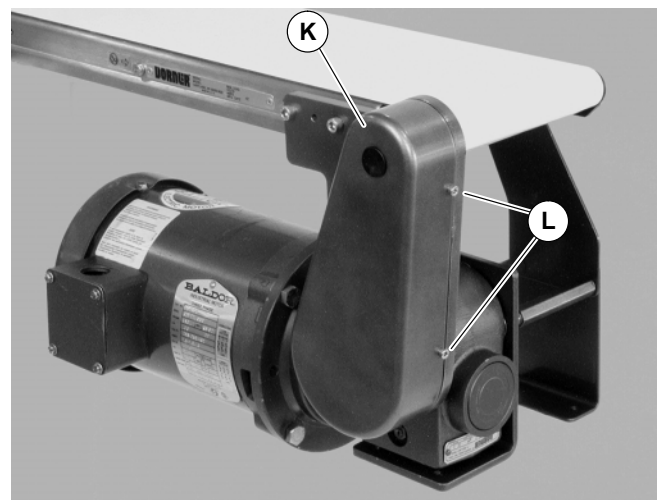

Figure 14
12. Install cover (K of Figure 14) with four (4) screws (L). Tighten to 35 in-lb (4 Nm).
1. Remove four (4) screws (L of Figure 14) and remove cover (K).
4. Install cover (K of Figure 14) with four (4) screws (L). Tighten to 35 in-lb (4 Nm).
6. Install cover (K of Figure 14) with four (4) screws (L). Tighten to 35 in-lb (4 Nm).